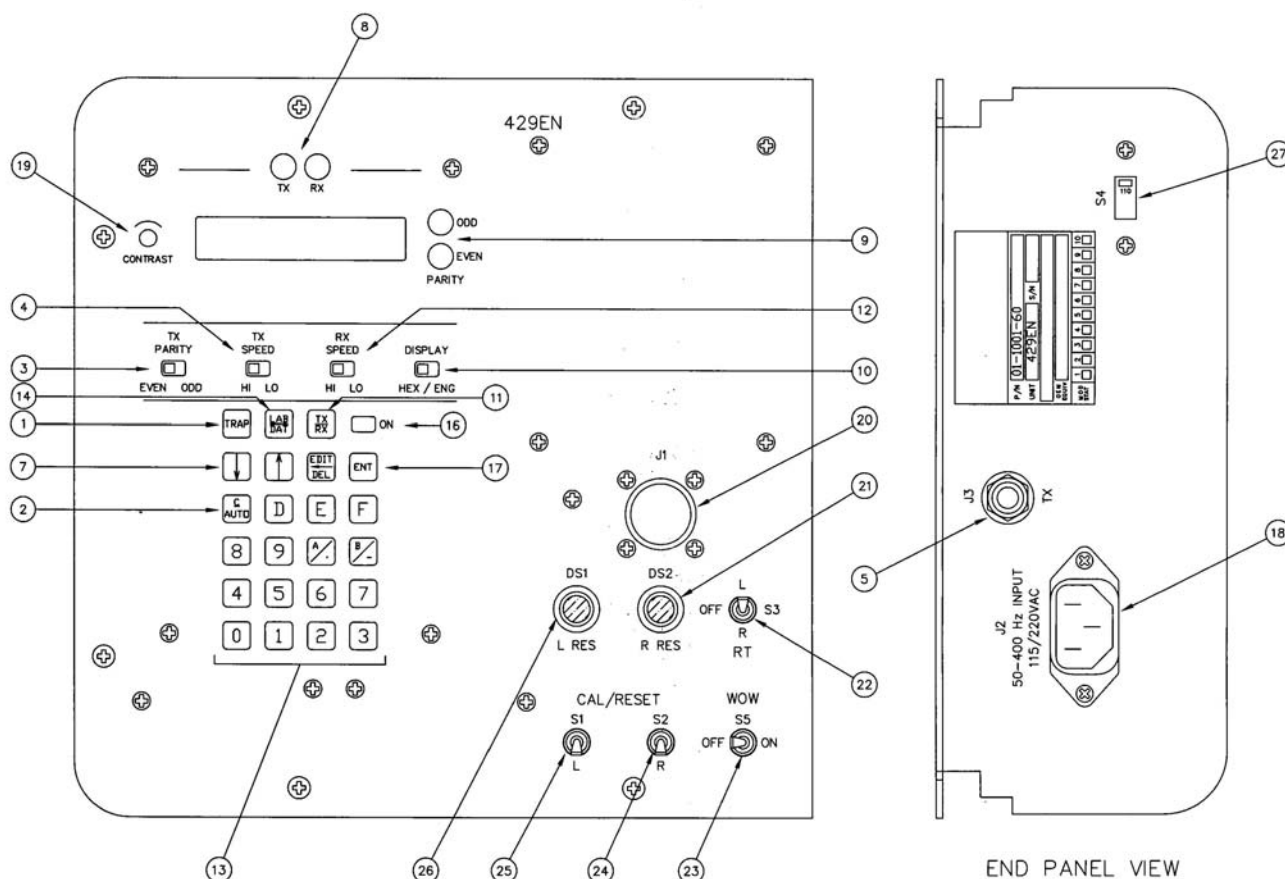

Fig. 3-1: Controls and Indicators
3.2.1 429EN CONTROLS AND INDICATORS (Figure 3-1)